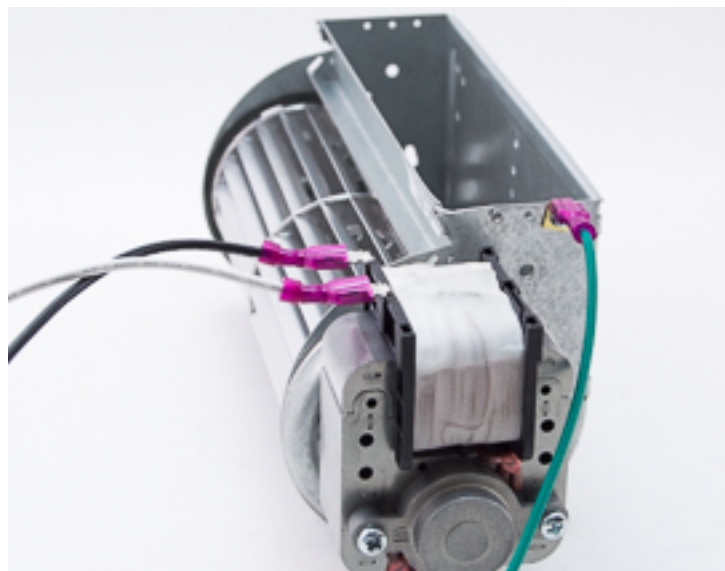

Figure: 1
Step 2: Push the green wire disconnect onto the ground tab on the end of fan. (Figure: 1)
Connect white and black wires of the cord set to either of the spade terminals attached to the motor. Push disconnects onto metal tabs (Figure: 1)